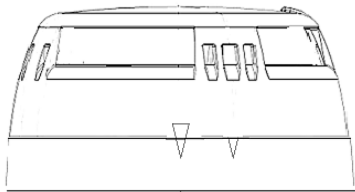

Figure 4
5. Verify the alignment between the ONEDETECTOR1X_AP and the raised reference marks on the ONEBASE.(Fig4)